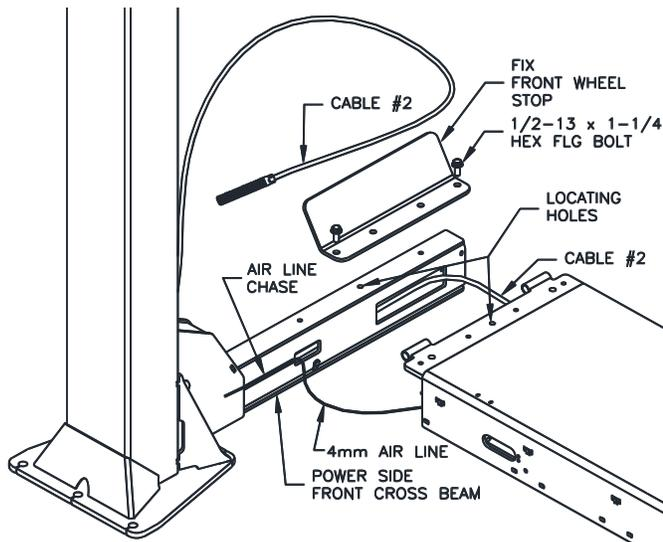
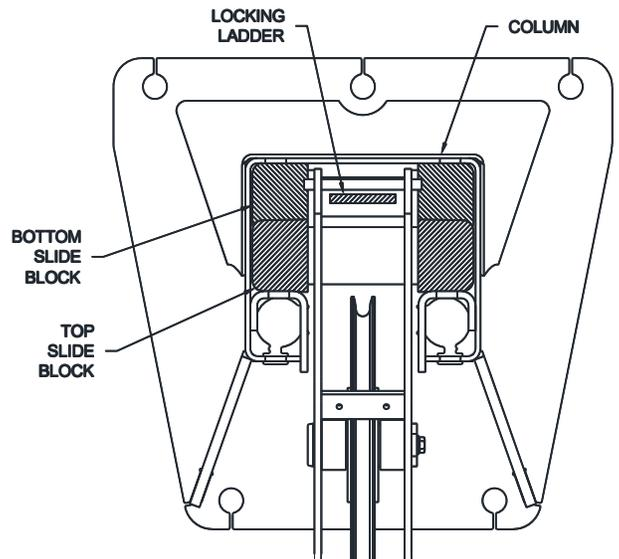

Fig 17 – Front CrossBeam Installation
Fig 19 – Locking Ladder Orientation
- 15) The runways to crossbeam positioning can be located using a tapered punch to pry on the locating holes in the runway and crossbeam **NOTE:** The locating holes are not threaded. See **Fig 17**.
- 16) Attach the rear crossbeam to the runways (**Fig. 5**) with 1/2 x 1-1/4" lg. flange head bolts. (Leave the airlines hanging out the bottom of the runway at this time. They will be fed in through the runway after the lift is raised.) **The outermost runway holes should be in line with the outermost holes in the top of the crossbeam, see Fig. 17.** Do not torque bolts yet.
- 36) The runways to crossbeam positioning can be located using a tapered punch to pry on the locating holes in the runway and crossbeam **NOTE:** The locating holes are not threaded. See **Fig 17**.
- 37) Attach the rear crossbeam to the runways (**Fig. 5**) with 1/2 x 1-1/4" lg. flange head bolts. (Do not torque bolts yet. For Flat decks, install the wheel stops before tightening runway bolts in **Step 12**. See **Fig 17**. Alignment Wheel Stop will be installed in a later step.
- 43) Ensure that the power side front crossbeam is touching the power column base plate and stand the column up. Insert the Lock Ladder into the slot, **Fig 19**, and reinstall the Column Top Plate and pins. Move the column into position and remove the crossbeam sheave. Reach in through the small access hole in the crossbeam tube, **Fig 17**, and pull out the 6 ft. roll of 4mm dia. plastic airline connected to the air cylinder at the end of the crossbeam.
- 44) Remove the crossbeam sheave guard, sheave, Pin etc. Feed **Cable #2** into the crossbeam's large access hole and back out the top, **Fig 17**. Insert the air line into the first Ring in the runway end. See **Fig 6 and 7** for ring location.